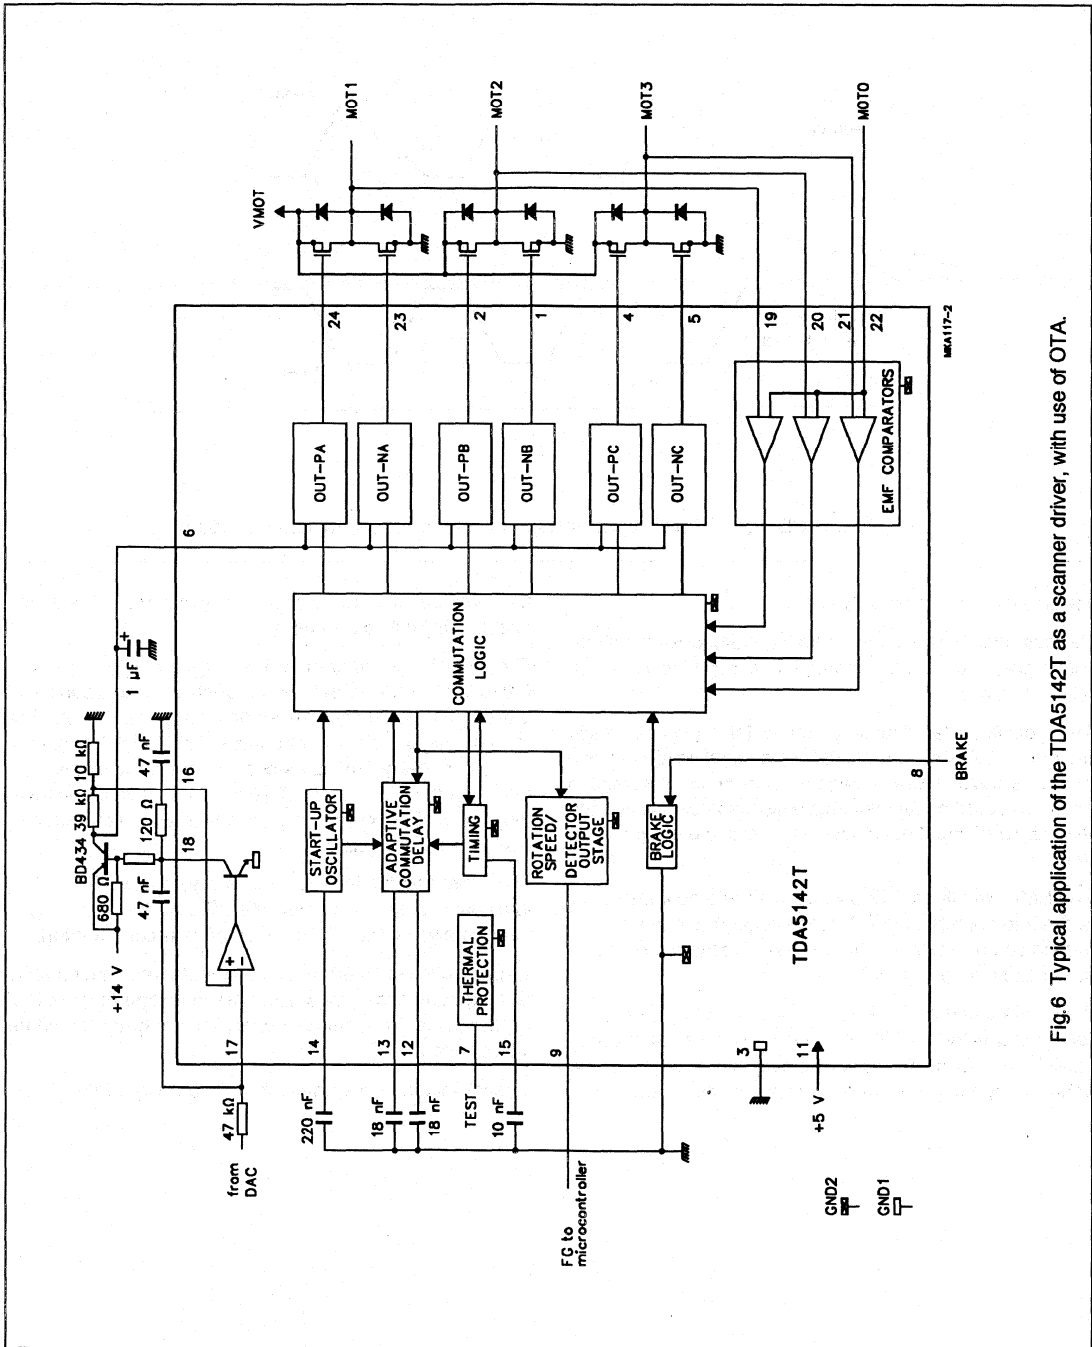

Fig. 6 Typical application of the TDA5142T as a scanner driver, with use of OTA.
**Introduction (see Fig.6)**
For the analog control an external transistor is required. The OTA can supply the base current for this transistor and act as a control amplifier (see Fig.6).